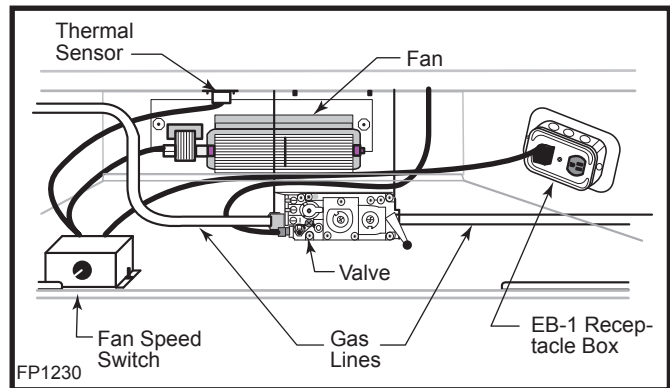

Fig. 52 FK24 fan placement.
3. Locate the fan speed control unit. This can be fitted behind the lower louver assembly as in Figure 52 or located remotely in a conveniently located wall mounted electrical box. Remote location of the speed control will require suitable extension of the component wiring.